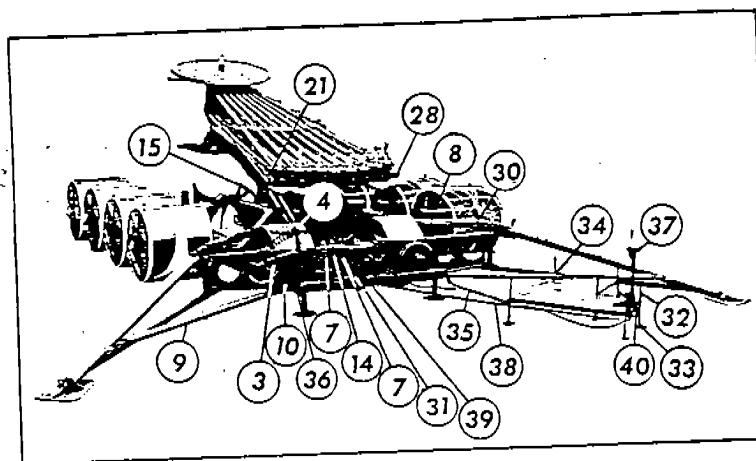

FIG. 1
- (5) Remove 3/4" pin and fold down cable idler arm with spring (3) Fig. 1 which is located on rear left side. Secure in operating position by pinning spring bracket to idler arm bracket (4) Fig. 1 with two 3/4" pins.